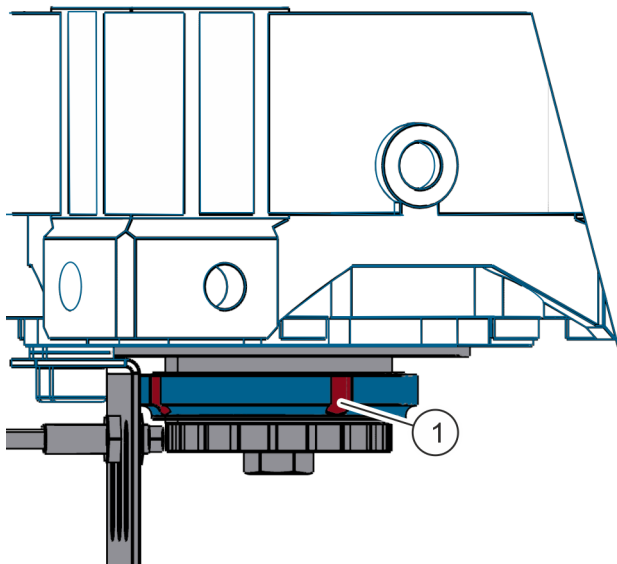

Fig. 18: Setting the torque limitation
1. ➤ Use a wrench on the shaft groove nut (Fig. 18/1) to adjust the torque.
The four notches on the shaft groove nut (Fig. 18/1) each correspond to a 90° rotation.